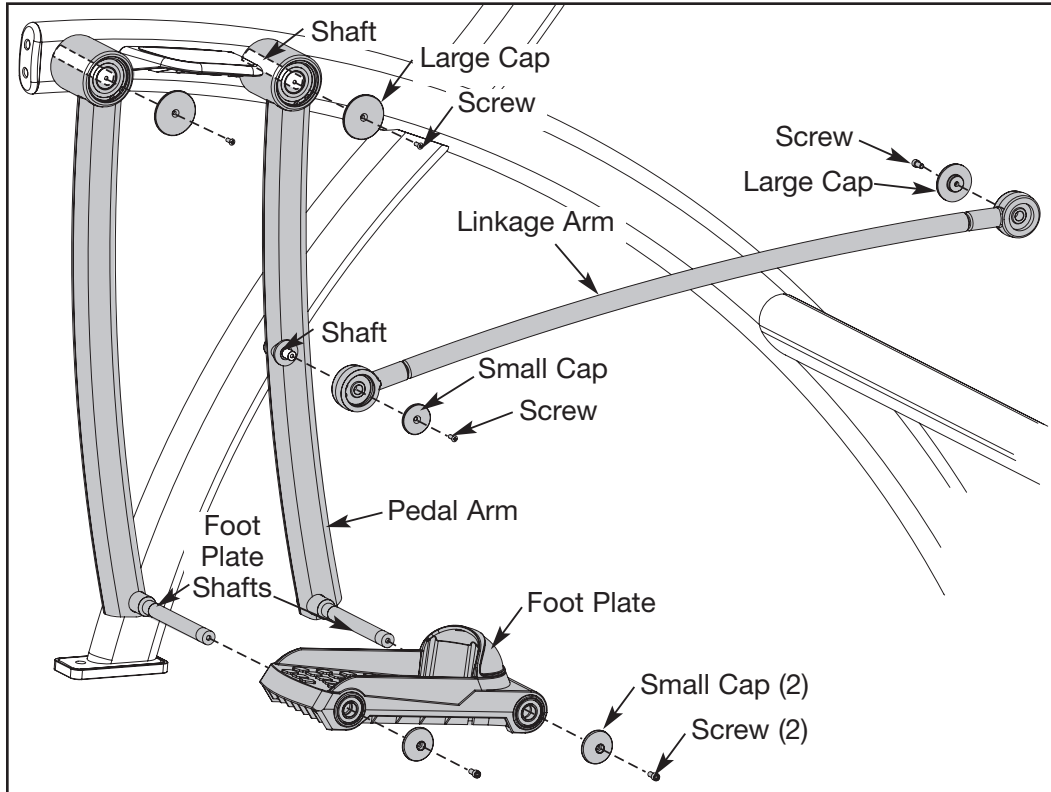

Figure 23
- A. Turn the main power switch above the power inlet to the off (O) position.
- A. Using a Phillips head screwdriver or 3/16" hex key, remove each screw securing the (appropriate) cap. See Figure 23.
- C. Using a Phillips head screwdriver or 3/16" hex key, attach cap with the (appropriate) screw securing the cap. See Figure 23.